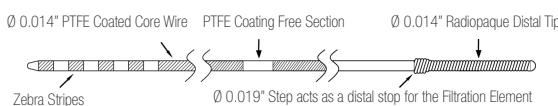
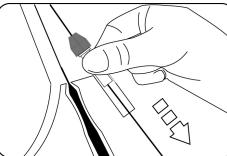
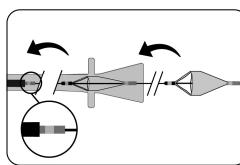

Figure 1
Figure 10
Figure 11
The BareWire Filter Delivery Wire (Figure 1) is a 0.014" PTFE coated stainless steel wire with a 3 cm platinum / nickel radiopaque distal tip section. The Filter Delivery Wires in the BareWire range have zebra stripes on the proximal end for ease of identification.
- Unclip the torque device (Figure 10). Ensure that the torque device is securely tightened on the coating free section of the BareWire Filter Delivery Wire (refer to Figure 1). The torque device can be re-tightened if required. Carefully pull the torque device in a controlled manner to retract the BareWire Filter Delivery Wire and observe the Filtration Element being retracted through the Loading Funnel into the Delivery Catheter Pod. The device is fully loaded when the distal marker band on the Filtration Element is at or inside the end of the delivery catheter pod and a definite stop is felt (refer to Figure 11).
- Inspect the Delivery Catheter Pod prior to removal from the tray to ensure the Filtration Element is fully loaded (refer to Figure 11).